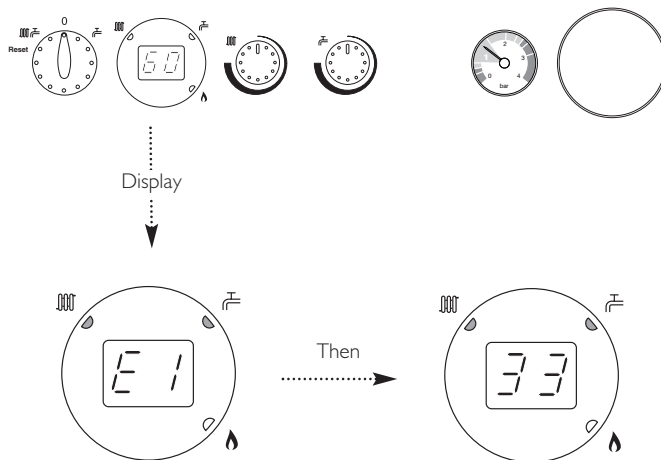

Fig. 9
1. If a fault occurs on the boiler an error code may be shown on the facia display (Fig. 9).